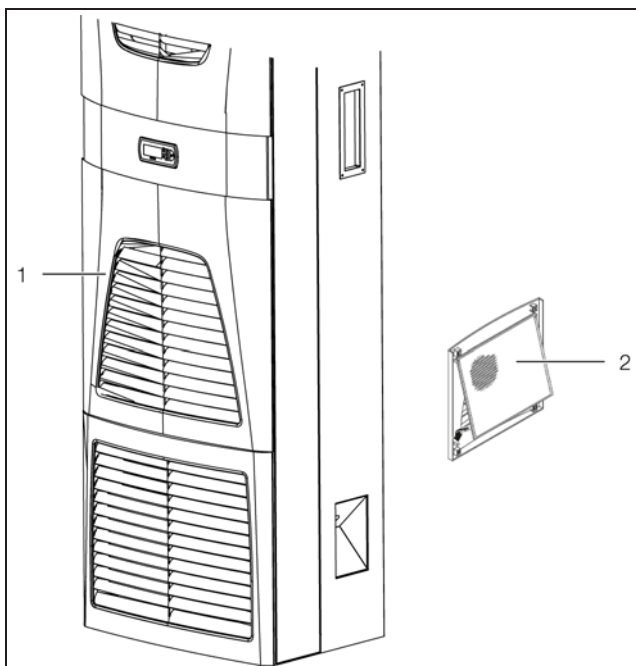

Fig. 51: Installing the filter mat (3360.100, 3360.250, 3360.470)
- Pull the louvred air inlet grille off the enclosure (fig. 51, item 1).
- Insert the filter mat (Model No. 3286.410) into the louvred grille (fig. 51, item 2) and push it back onto the housing.